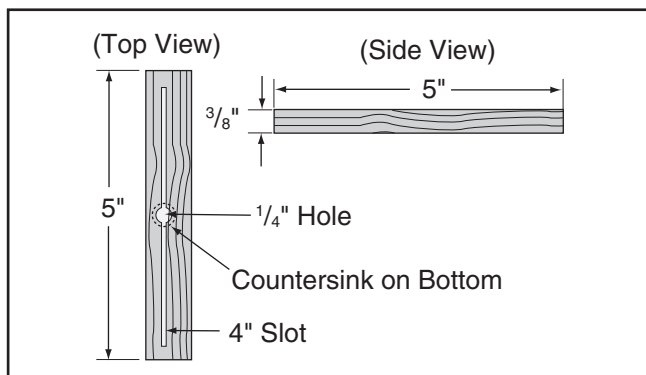

Figure 127. Miter bar pattern.
5. Cut miter bar that will fit in table miter slot approximately 5" long, as shown in **Figure 127**.